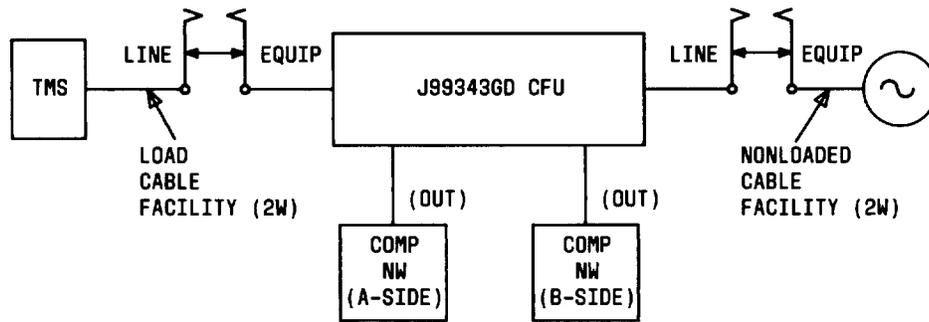

Fig. 4—Typical Test Configuration for Frequency Response Measurements
7.02 The following procedure is given for the J99343GD CFU when used in an intermediate location. Figure 4 is the test arrangement showing the three locations involved which has the B-side of the repeater under adjustment.